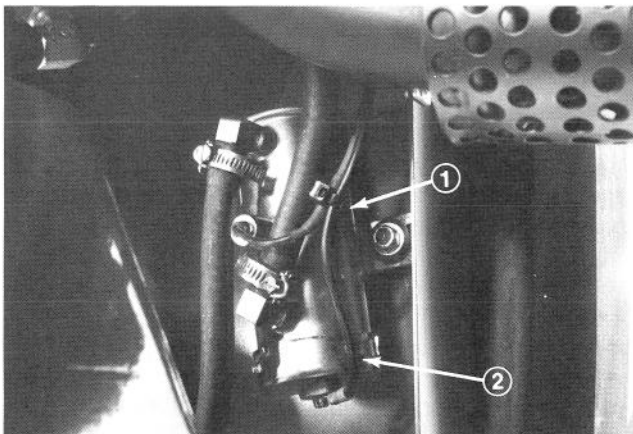

Figure 38
1. Fuel pump is located under the fuel tank (Fig. 38).
3. Place a drain pan under fuel pump and remove cover from fuel pump with 17 mm wrench (Fig. 38). Take care not to damage wire while removing cover.